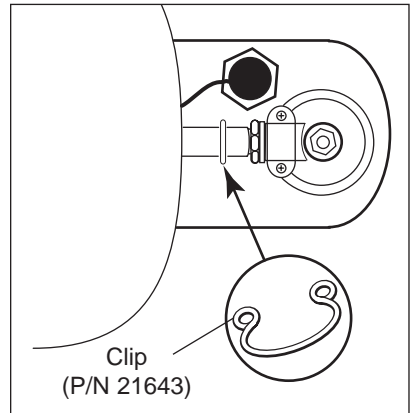

Figure 9
1. Turn the Grill Body upside down. Refer to Figure 9 and locate the clip that holds the venturi to the Regulator Assembly. Pull straight up on the clip, set it to the side and return the Grill Body to the Upright position.